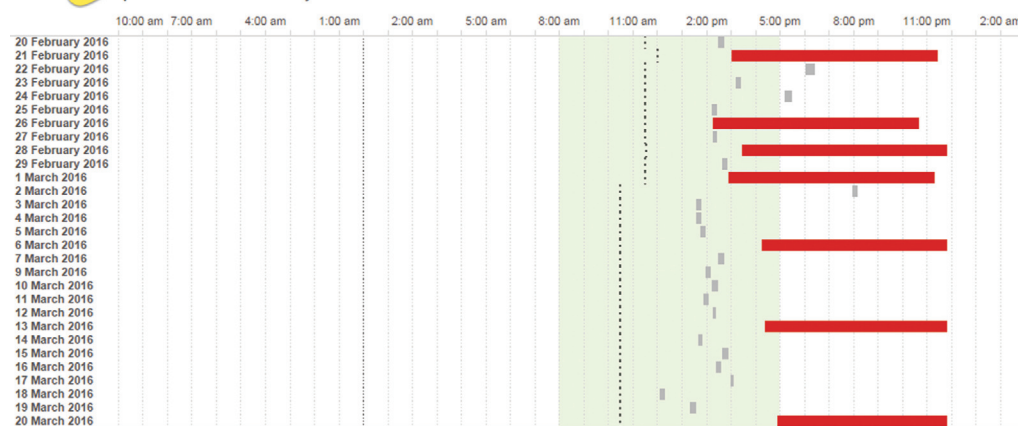

FIGURE 18.5 A dashboard with a great top-down flow.
The dashboard in Figure 18.5 demonstrates this flow. Starting at the top, Mark has an overview of the server performance for recent days (1). Clicking on a day allows him to filter down to a single-day view (2). He can then get details on demand by clicking on a task (3), to open the details on task summary view (4), or use the URL to go directly to the task on the server itself (5). The flow is top down and easy to follow.